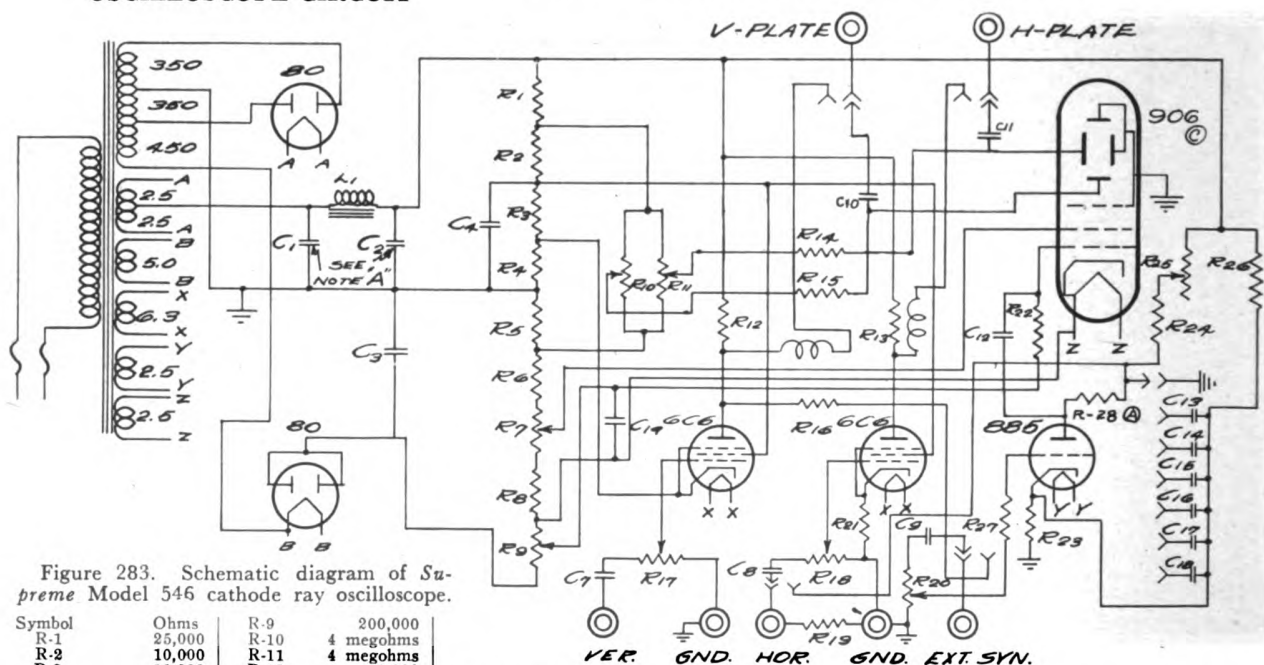

Figure 283. Schematic diagram of Supreme Model 546 cathode ray oscilloscope.
8. Refer to Figure 283. These controls are potentiometers — look for them.